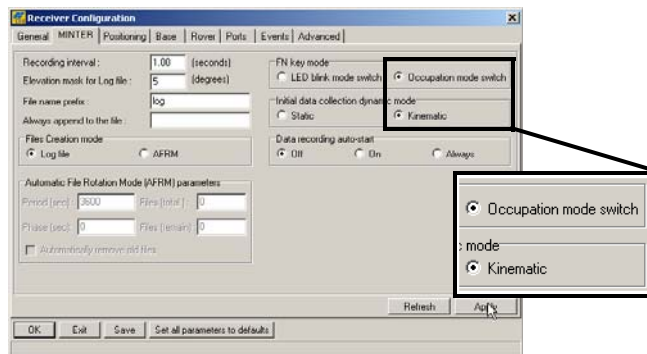

Figure 3-5. Rover MINTER Configuration
2. Click **Configuration ▶ Receiver ▶ MINTER**, configure the Rover with the these parameters, and click **Apply** (Figure 3-5):